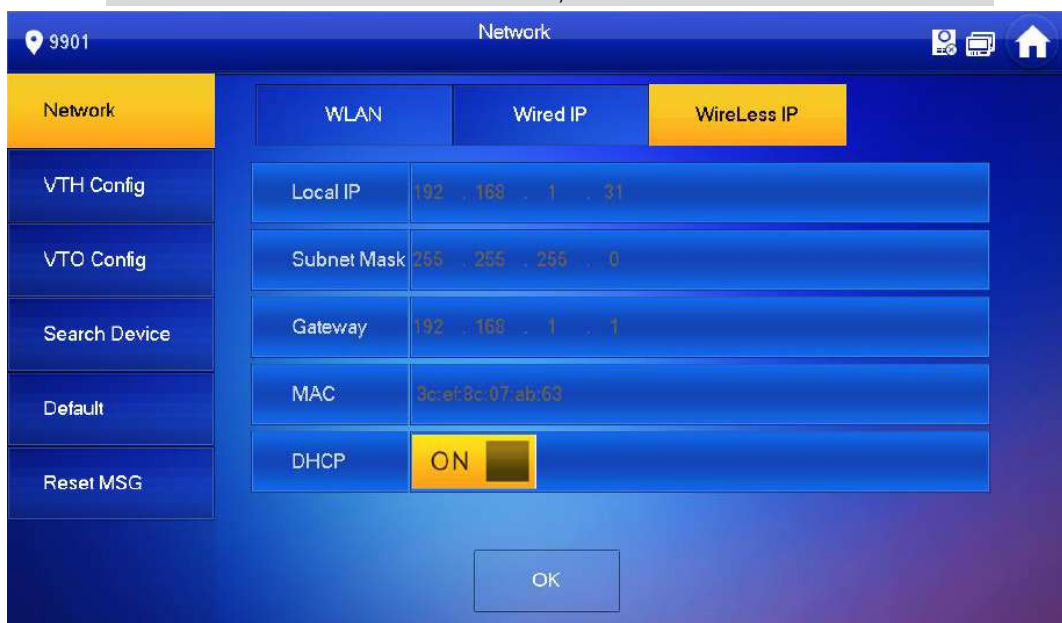

Figure 5-13
- ◇ At “WLAN” interface, select WIFI, click “Wireless IP” tab, press ☐ OFF to enable DHCP function and obtain IP info automatically, as shown in Figure 5-13.